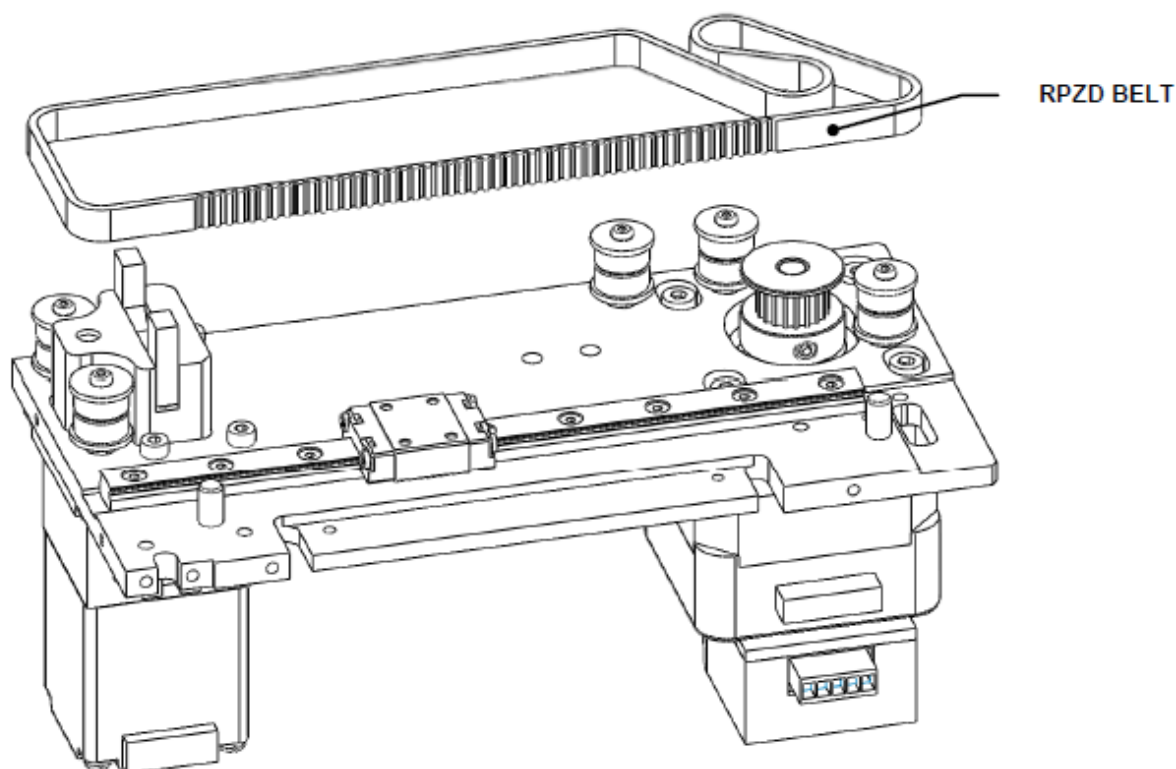

Figure O-21: Removing the Belt
3. Removing the belt (Figure O-21).